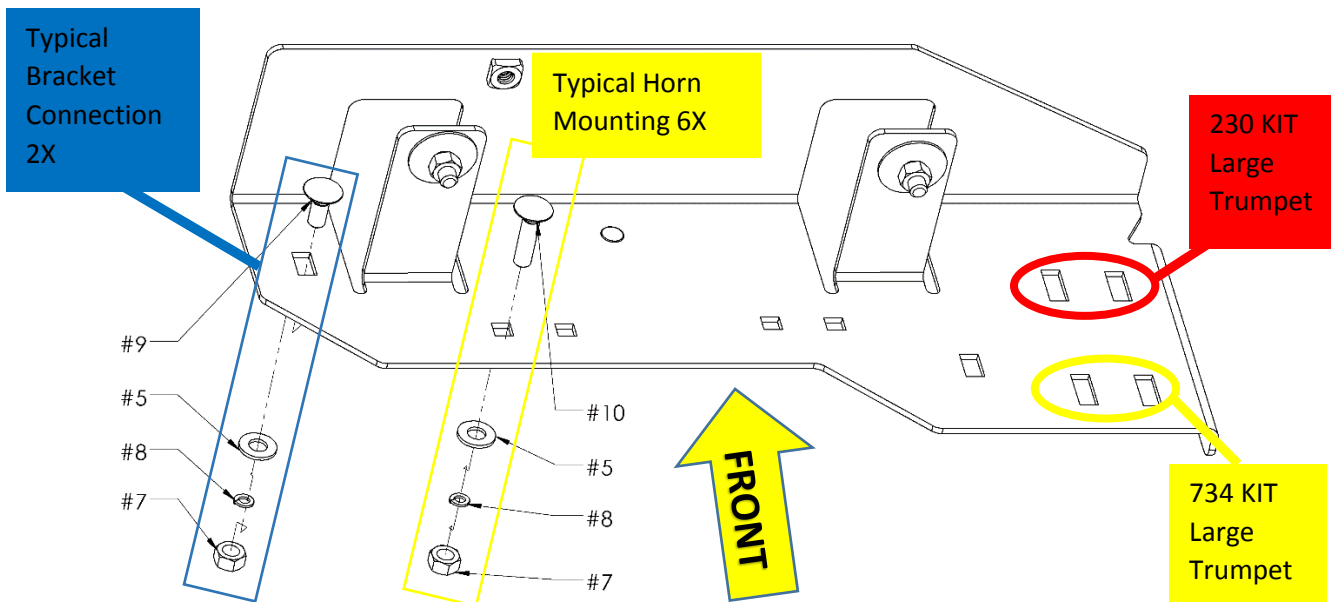

Figure 15 – TUNDRA-201 to TUNDRA-301 Hardware Connections; Exploded Views
10.4.3. Using hardware #5, #7, & #8 connect TUNDRA-201 to stud on Air Horn Bracket, as shown in Figure 15.
10.4.4. Connect TUNDRA-201 (Tank bracket) to TUNDRA-301 (Horn bracket) using hardware #5, #7, #8, & #9. See Figure 15 for hole positions.
- 10.7.2. Using hardware #5, #7, #8, & #10 mount Air Horn Drivers onto Horn Bracket (TUNDRA-301). Solenoid will be attached to Medium Air Horn Driver as shown circled in Figure 22 below; **ensure arrow on brass Solenoid is pointing toward Air Horn**. Hand tighten fasteners; see Figures 15 & 23 for reference.